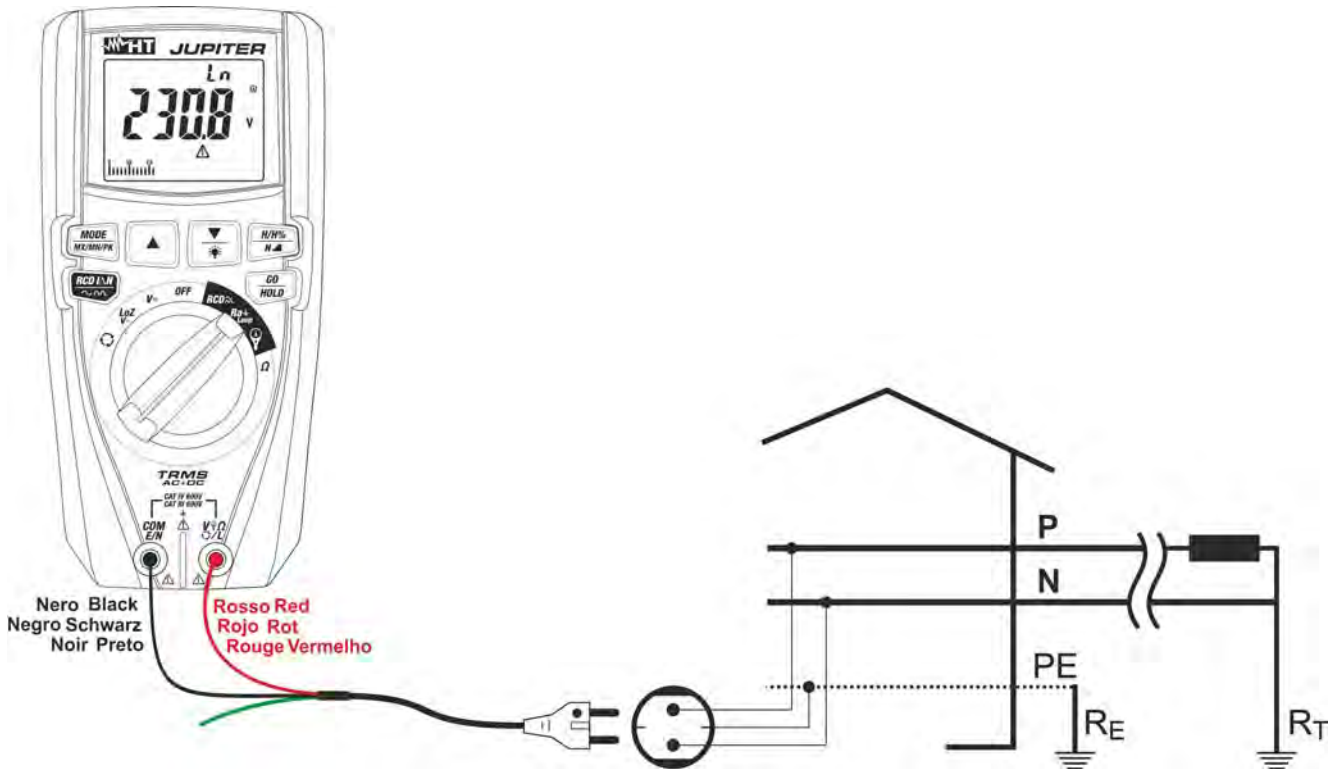

Fig. 25: Use of the instrument for measuring Loop L-N impedance with cable provided with Schuko plug
7. **For Loop L-N measurements**, in case the cable with Shuko plug is used, insert the red conductor into input terminal  $V_{\Omega} \text{ L}$  and the black conductor into input terminal **COM/E/N** and connect the instrument to the system to be tested (see Fig. 25). The value of phase-to-neutral voltage is shown on the display